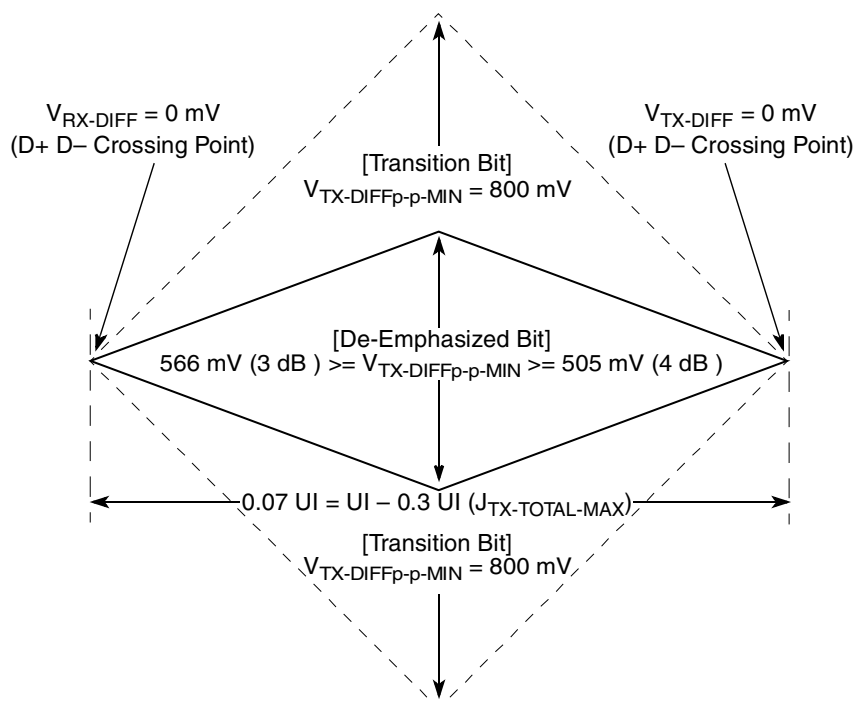
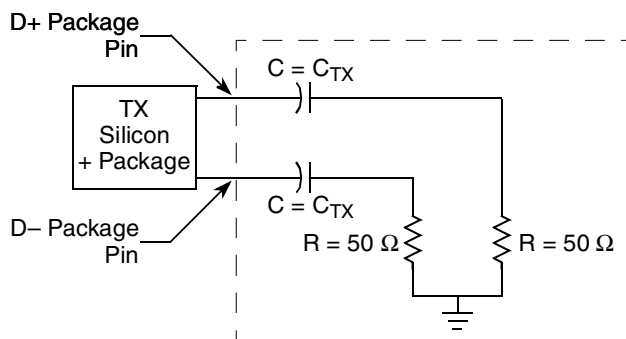

Figure 55. Minimum Transmitter Timing and Voltage Output Compliance Specifications
Figure 57. Compliance Test/Measurement Load
- Specified at the measurement point into a timing and voltage compliance test load as shown in Figure 57 and measured over any 250 consecutive TX UIs. (Also refer to the transmitter compliance eye diagram shown in Figure 55.)
- The Transmitter input impedance shall result in a differential return loss greater than or equal to 12 dB and a common mode return loss greater than or equal to 6 dB over a frequency range of 50 MHz to 1.25 GHz. This input impedance requirement applies to all valid input levels. The reference impedance for return loss measurements is 50 ohms to ground for both the D+ and D- line (that is, as measured by a Vector Network Analyzer with 50 ohm probes—see Figure 57). Note that the series capacitors  $C_{TX}$  is optional for the return loss measurement.
- Measured between 20-80% at transmitter package pins into a test load as shown in Figure 57 for both  $V_{TX-D+}$  and  $V_{TX-D-}$ .
The TX eye diagram in Figure 55 is specified using the passive compliance/test measurement load (see Figure 57) in place of any real PCI Express interconnect + RX component.
- Specified at the measurement point and measured over any 250 consecutive UIs. The test load in Figure 57 should be used as the RX device when taking measurements (also refer to the Receiver compliance eye diagram shown in Figure 56). If the clocks to the RX and TX are not derived from the same reference clock, the TX UI recovered from 3500 consecutive UI must be used as a reference for the eye diagram.
- The Receiver input impedance shall result in a differential return loss greater than or equal to 15 dB with the D+ line biased to 300 mV and the D- line biased to -300 mV and a common mode return loss greater than or equal to 6 dB (no bias required) over a frequency range of 50 MHz to 1.25 GHz. This input impedance requirement applies to all valid input levels. The reference impedance for return loss measurements for is 50 ohms to ground for both the D+ and D- line (that is, as measured by a Vector Network Analyzer with 50 ohm probes - see Figure 57). Note: that the series capacitors CTX is optional for the return loss measurement.
The RX eye diagram in Figure 56 is specified using the passive compliance/test measurement load (see Figure 57) in place of any real PCI Express RX component.
Note: In general, the minimum Receiver eye diagram measured with the compliance/test measurement load (see Figure 57) is larger than the minimum Receiver eye diagram measured over a range of systems at the input Receiver of any real PCI Express component. The degraded eye diagram at the input Receiver is due to traces internal to the package as well as silicon parasitic characteristics which cause the real PCI Express component to vary in impedance from the compliance/test measurement load. The input Receiver eye diagram is implementation specific and is not specified. RX component designer should provide additional margin to adequately compensate for the degraded minimum Receiver eye diagram (shown in Figure 56) expected at the input Receiver based on some adequate combination of system simulations and the Return Loss measured looking into the RX package and silicon. The RX eye diagram must be aligned in time using the jitter median to locate the center of the eye diagram.
The reference impedance for return loss measurements is 50. to ground for both the D+ and D- line (that is, as measured by a Vector Network Analyzer with 50. probes—see Figure 57). Note that the series capacitors, CTX, are optional for the return loss measurement.
The AC timing and voltage parameters must be verified at the measurement point, as specified within 0.2 inches of the package pins, into a test/measurement load shown in Figure 57.